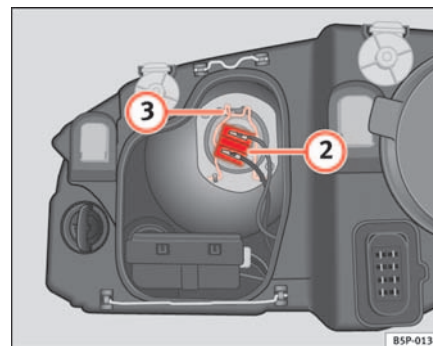

Fig. 183 Dipped head-lights
- Remove the connector ⇒ page 251, fig. 183 ② from the bulb.
- Disengage the retainer spring ⇒ page 251, fig. 183 ③ pressing inwards and to the right.